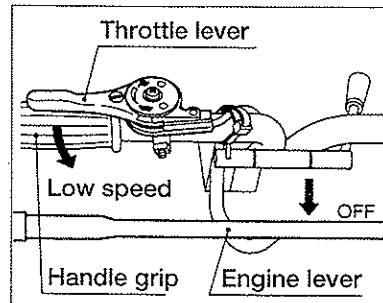

Fig. 12
- ② Set the throttle lever to the low speed position (Fig. 12).
- ③ Set the strainer lever to the closed position (refer to the engine operation manual ).
- ④ Release the engine lever (Fig. 12).
- ⑥ Release the engine lever immediately in an emergency.